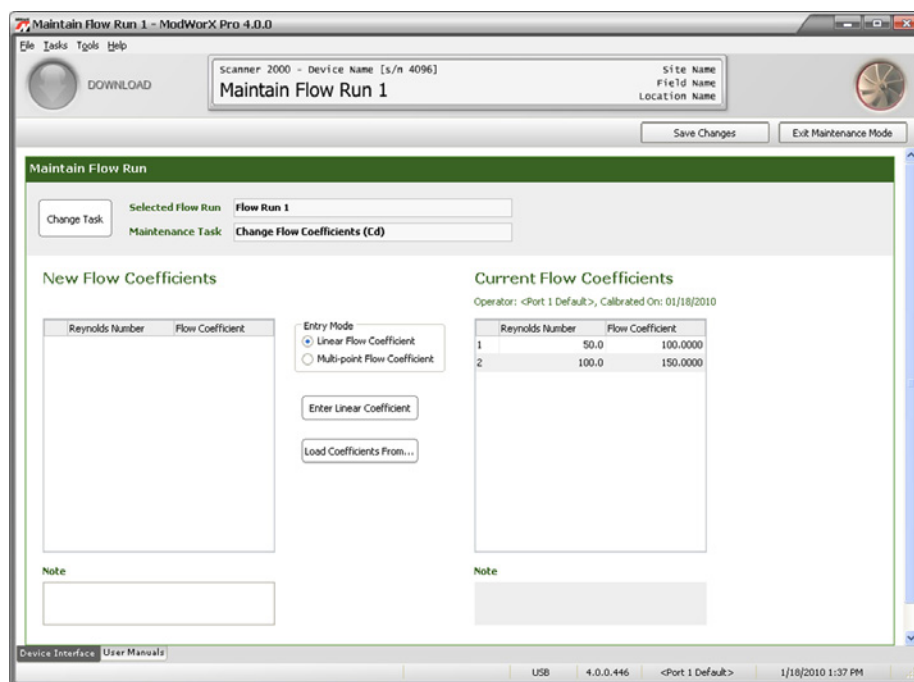

Figure 10.7
- b. Click **OK** to save the new selections and return to the Maintain Flow Run screen (Figure 10.7, page 148).